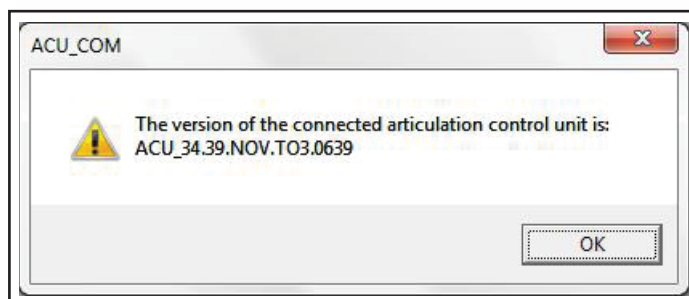

Figure 10 - Typical Software Version Window
- 1.17. A second pop-up window will appear to confirm the ACU software version. See Figure 10. Compare the version in the pop-up with the one you uploaded. If the two versions are identical, click OK. If not, redo the procedure from step 1.8.